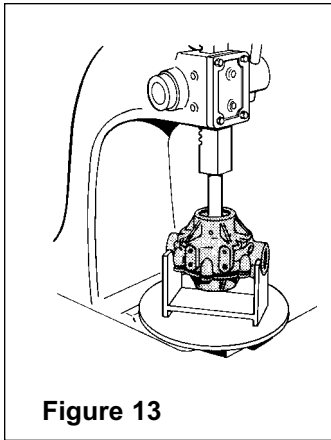

Figure 13
5. Support the pump at its ports in an end plate support fixture with the end plate down. Use wood blocks for Series 1500, 1700 and 4001/4101. Place on press bed. Center press on pump shaft and apply pressure to press the pump apart. (See Figure 13).